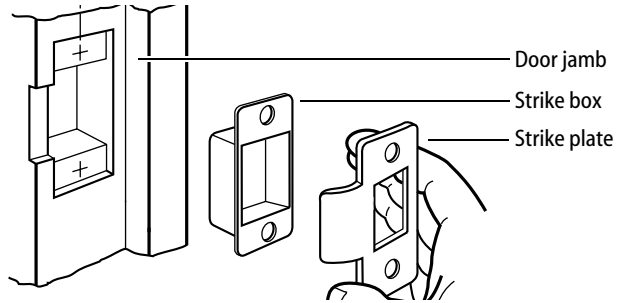

Figure 7 — Installing the strike
- Insert the strike box and secure the strike with screws provided (see Figure 7).